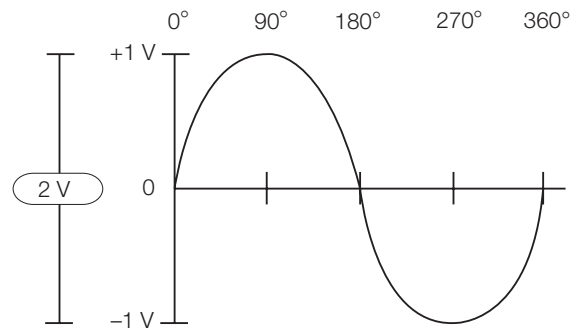

Figure 9. Amplitude and degrees of a sine wave.
Amplitude refers to the amount of voltage between two points in a circuit. Amplitude commonly refers to the maximum voltage of a signal measured from ground, or zero volts. The waveform shown in Figure 9 has an amplitude of 1 V and a peak-to-peak voltage of 2 V.
**Phase** is best explained by looking at a sine wave. The voltage level of sine waves is based on circular motion. Given that a circle has 360°, one cycle of a sine wave has 360°, as shown in Figure 9. Using degrees, you can refer to the phase angle of a sine wave when you want to describe how much of the period has elapsed.